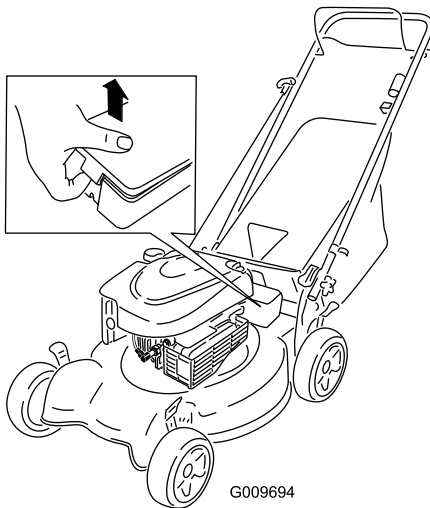

Figure 25
1. Unclip both ends of the battery cover and remove it (Figure 25).